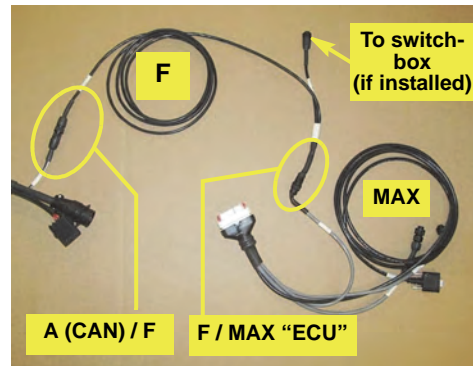

Figure 1b: Splitter cable connections
- b. Using the splitter (‘Y’) cable **F** (but see note following), tie into the existing CAN connection. For example, connect **F** between the 7-pin CAN connector labeled “ECU” on the Outback MAX cable (with the white main connector) and the 7-pin CAN connector on interface cable **A** (Figure 1b).
You can use splitter cable **F** as an extension cable between interface cable **A** and the CAN connection “ECU” on the (white connector) Outback MAX cable. You can also use cable **F** to connect the switchbox if installed (Figure 1b).